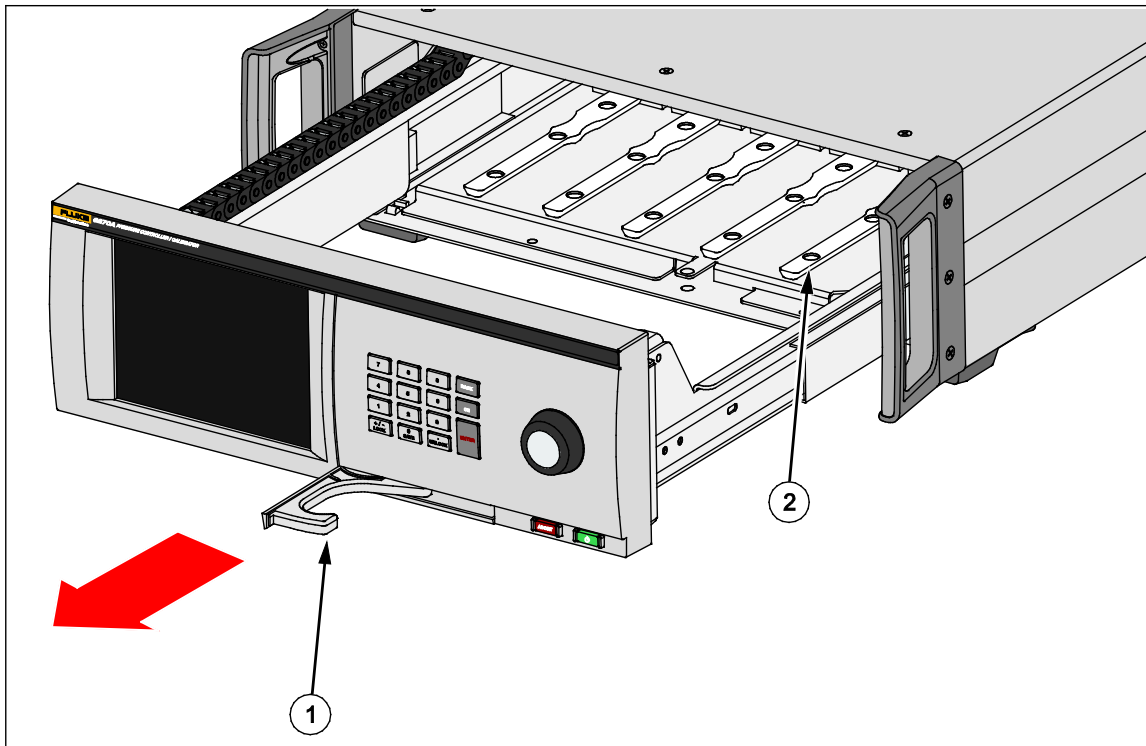

Figure 2. Module Bay
To access the Module Bay, see Figure 2:
5. The PMM has a slot on the bottom of it that fits into the track that lies on the bottom of the inner Product case, see Figure 2 (②). Line the track up with the slot and slide the PMM into the bottom case until it stops. See Figure 3.